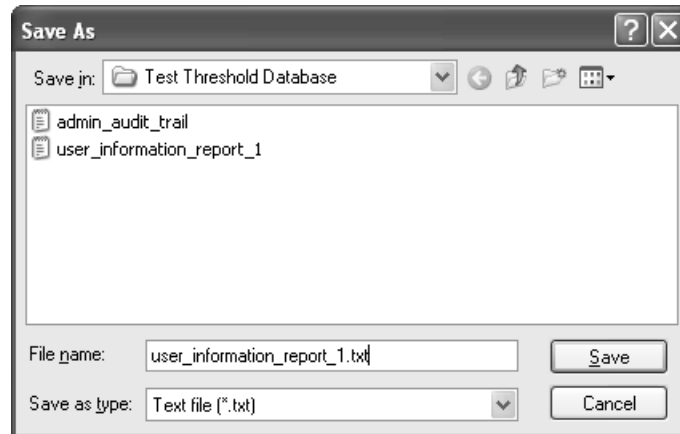

Figure 8-15: The User Information Save As Dialog
- 6) Click **Export**. This opens the **Save As** dialog. (Figure 8-15).
- 2) Go to the **Report Page**. (Figure 8-15)